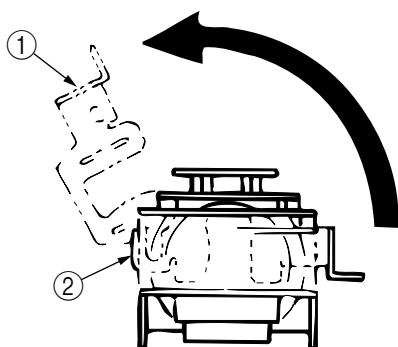

Figure 3.3.1
- (1) Open the access over.
- (2) Pull up and rotate the head clamp ① to unclamp the printhead ② as shown fig. 3.3.1.
- (3) Disconnect the printhead ② from PC connector ③.
- (4) To install, follow the removal steps in the reverse order.